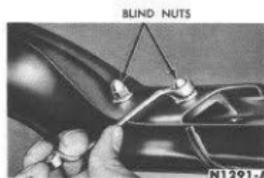

FIG. 120—Header Bow Adjustment
4. Loosen the blind nuts (Fig. 120), move one or both sides of the bow fore or aft to get proper alignment at the header, and tighten the nuts.